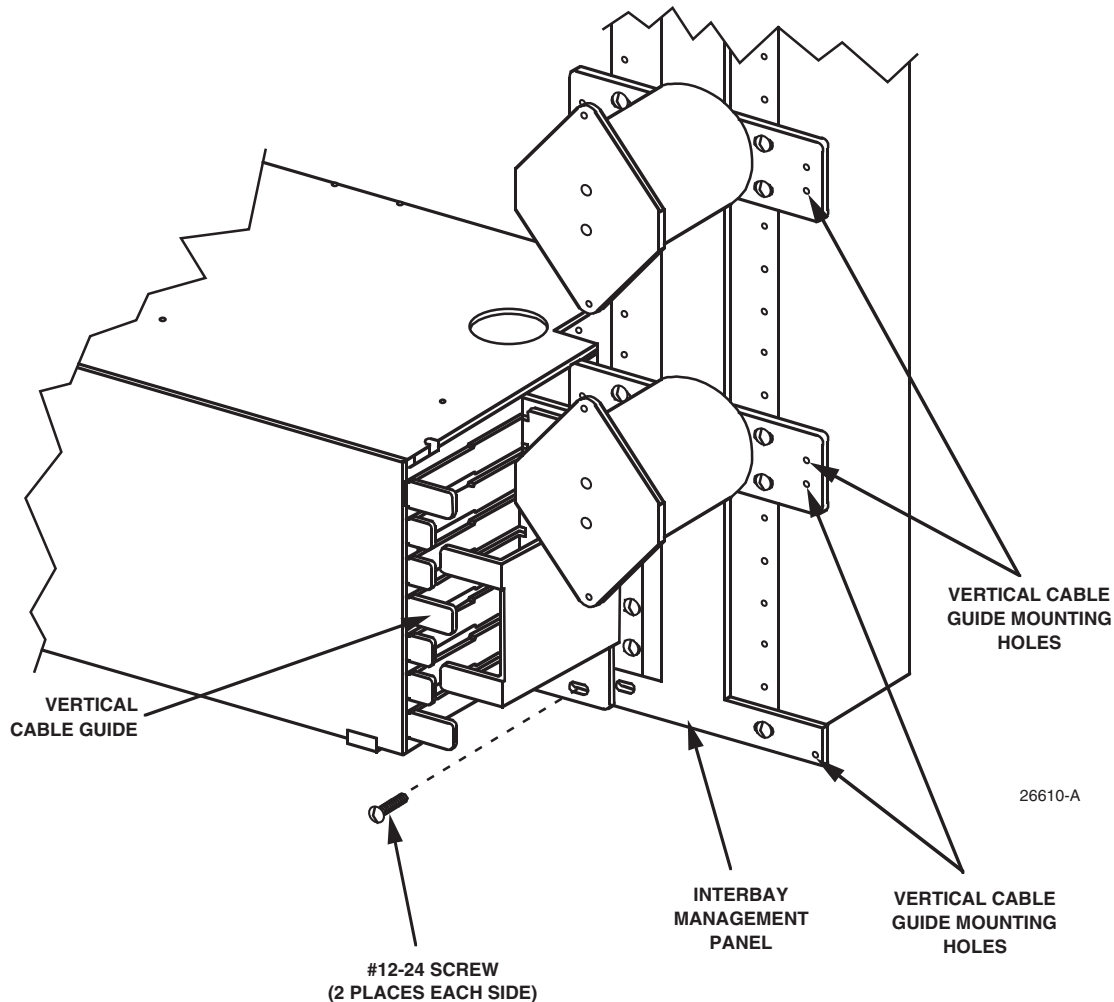

Figure 5. Vertical Cable Guide Installation in an Equipment Rack
7. Install optional vertical cable guides or reinstall the removed guides (see Figure 5).